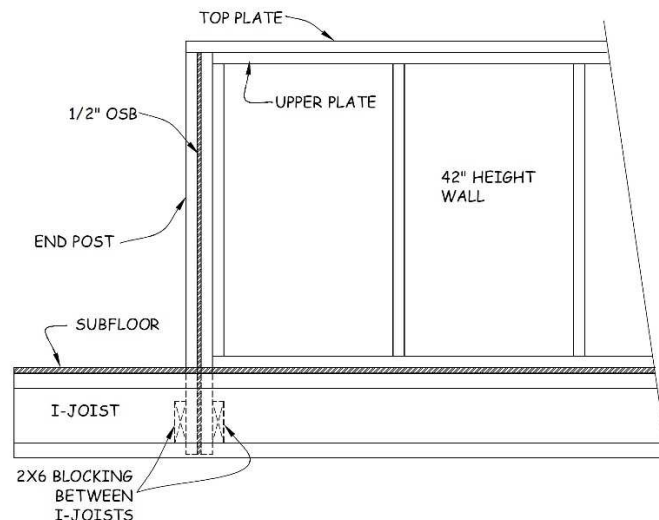

Figure 5-5. 42" Height Wall With Short Post.
5. Beneath the sub-floor (i.e., in the basement) create blocking for the post using two 2x6 pieces positioned vertically to the floor joists, one on each side of the post. These blocking pieces need to be tight to the post. Secure the blocking to the floor joists using 3" drywall screws on each end. Secure the post to the blocking using two 6" Timber screws through the blocking on each side (see Figure 5-5). Make certain the post above the sub-floor is plumb.